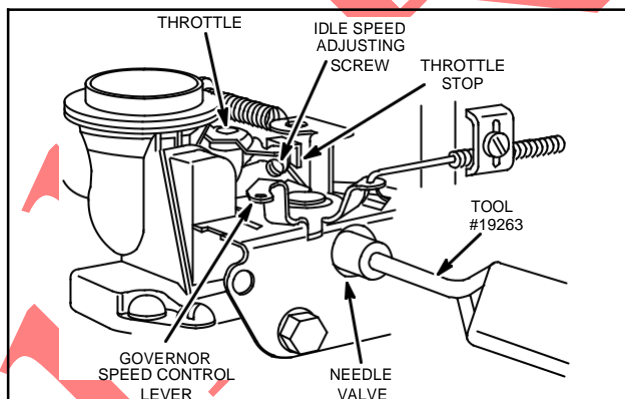

Fig. 255 – ADJUSTING CARBURETOR
2. Turn needle valve in until engine misses (clockwise-lean mixture) then turn needle valve out (counterclockwise) 3/8 turn, Fig. 255.